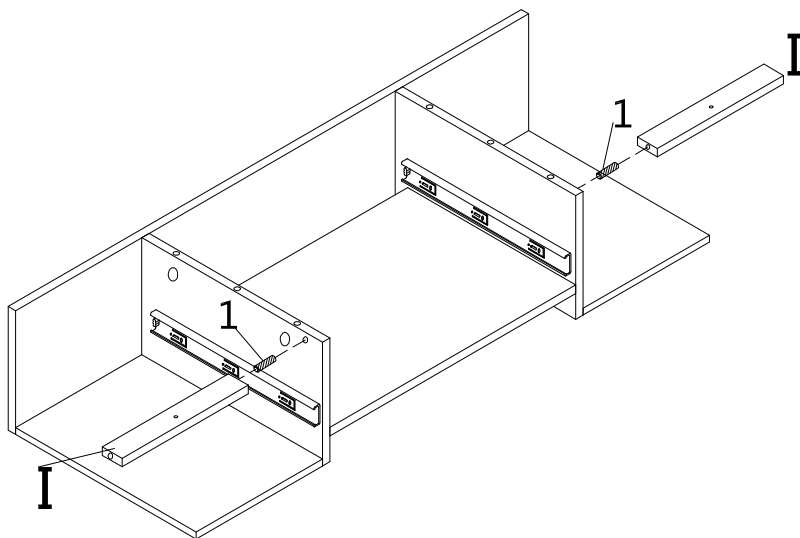

Figure 8
Insert Cam Lock (3) into pre-drilled holes on pre-assembled unit from figure 8.
Attach Side Panel (B/C) to pre-assembled unit from figure 8 by inserting Wood Dowel (1) & Cam Bolt (2) into corresponding pre-drilled holes until panels meet.